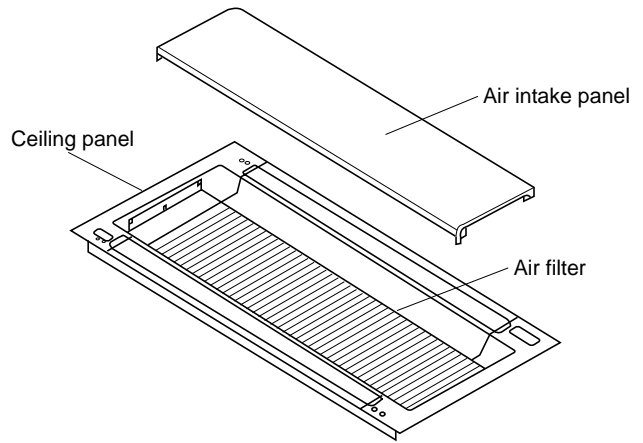

Fig. 11-3
- (2) Remove the air intake panel and the air filter from the ceiling panel as shown in Fig. 11-3 and 11-4.
- (6) Install the air filter and air intake grille by performing the steps in Figs. 11-3 and 11-4 in reverse.